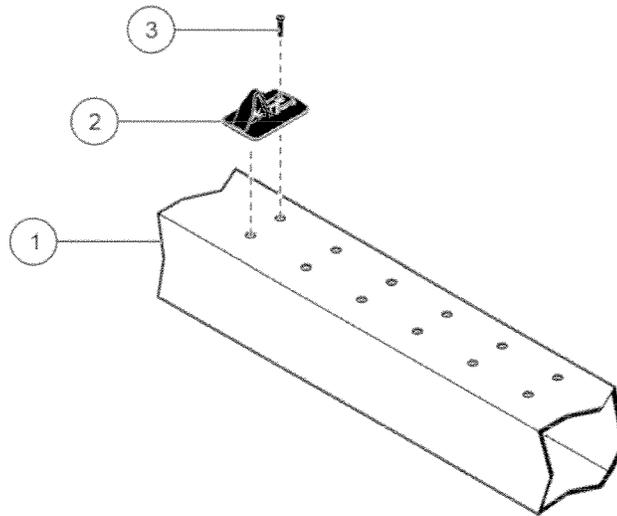

Figure 2 Spacer clip installation
5. Place the clips into pre-drilled rack beam holes. Secure each spacer clip with the provided screws (Figure 2).